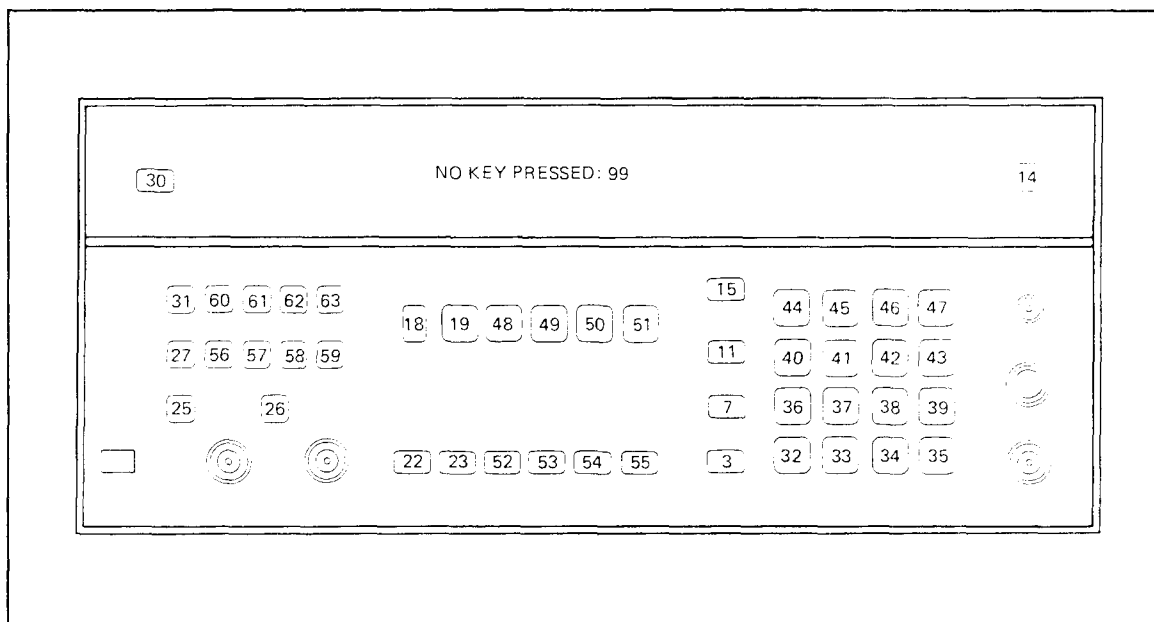

Figure 8B-3. Key Codes for Key Scan (Service Special Function 60)
60.0 Key Scan. The keyboard is scanned and a key code is displayed and output to the HP-IB. The key codes are shown in Figure 8B-3.